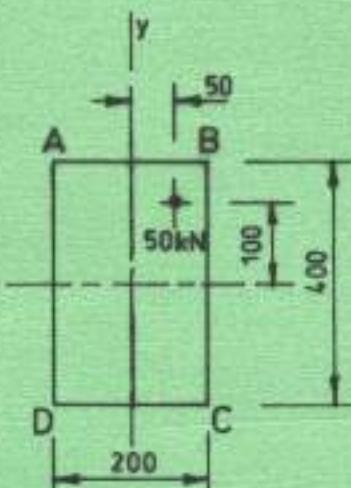

Fig. 3
2. (a) A rectangular column of cross section 400×200 mm carries an eccentric load of 50 kN as shown in figure 3. Calculate the stresses at corners B and D. (10 marks)